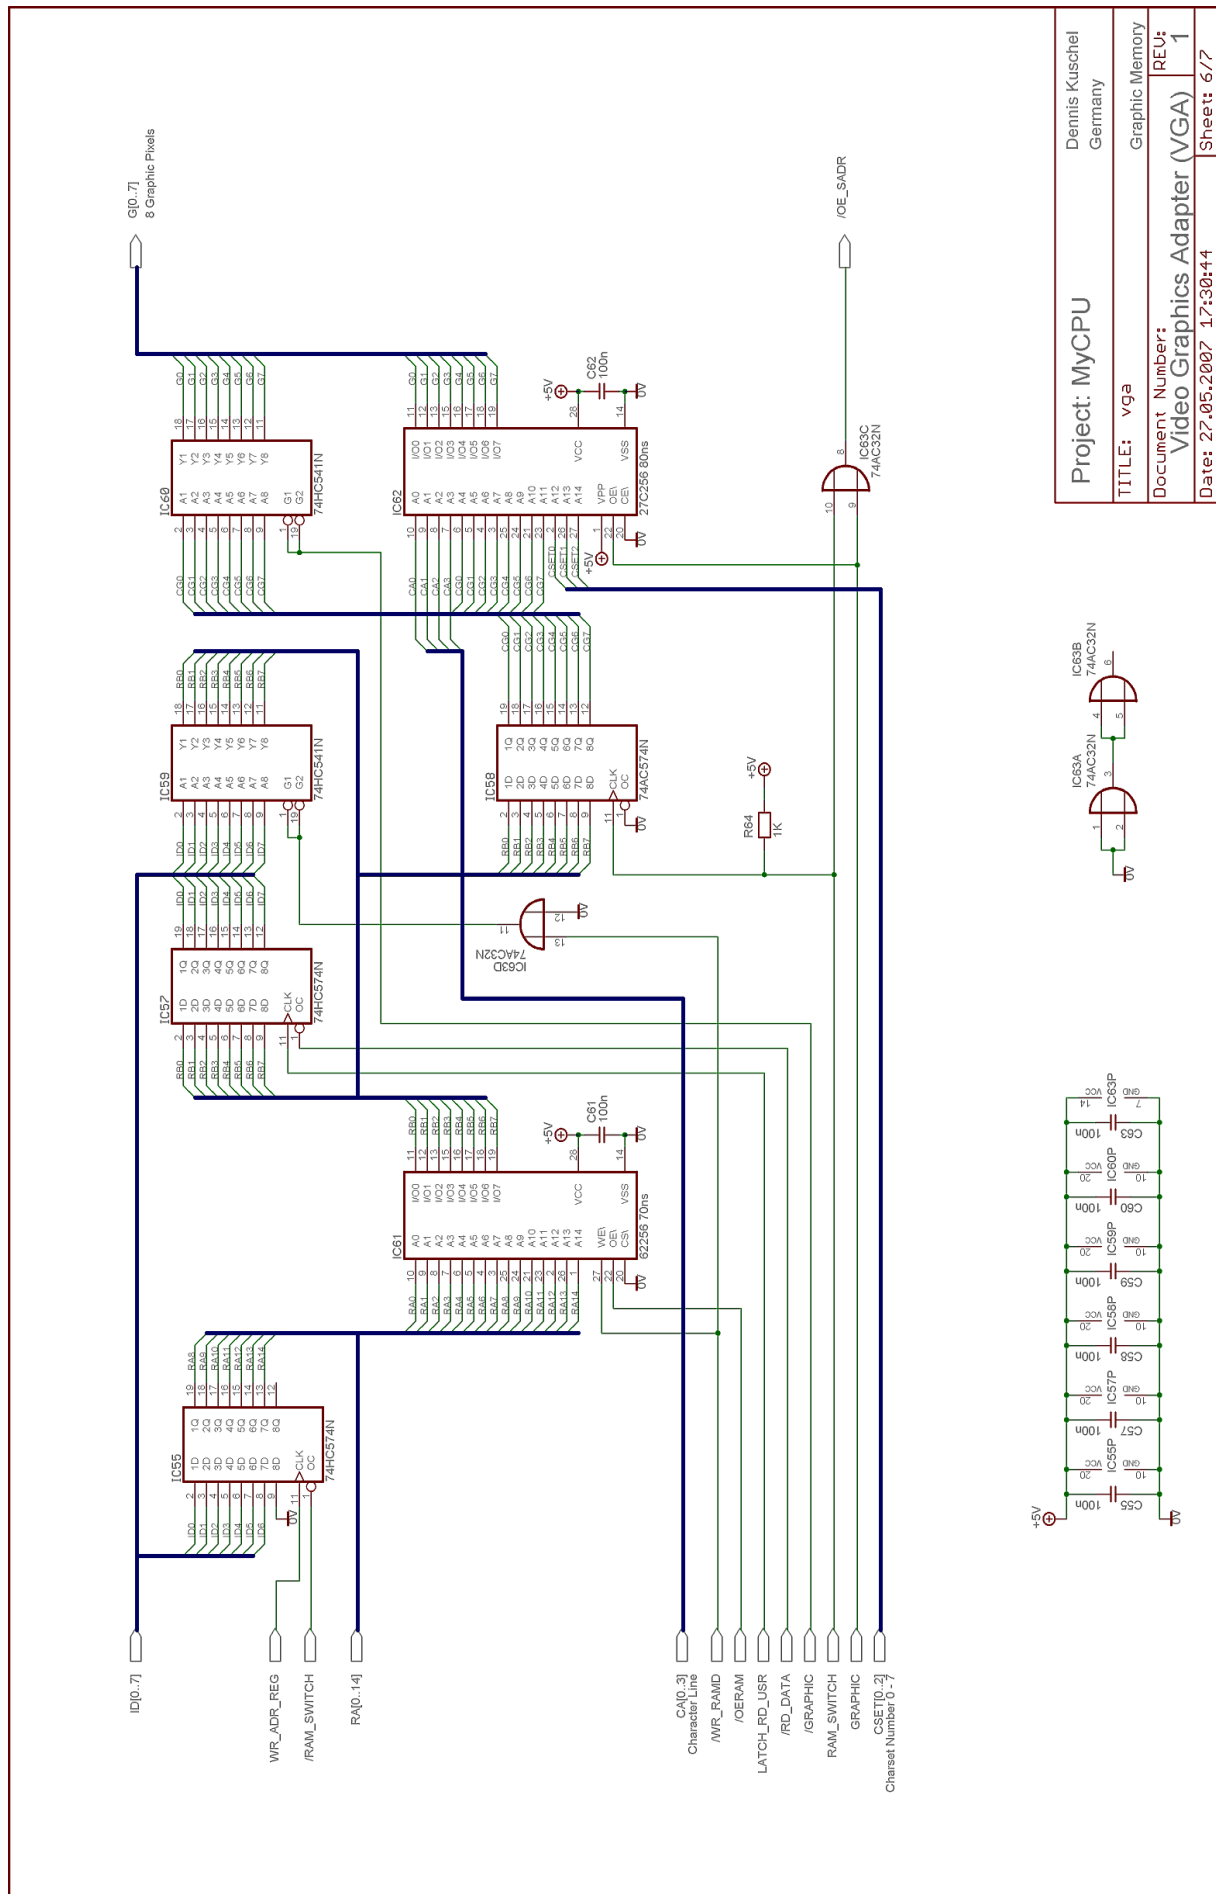

Fig. 41: Graphic Memory
- Fig. 41 on Page 47: Graphic Memory